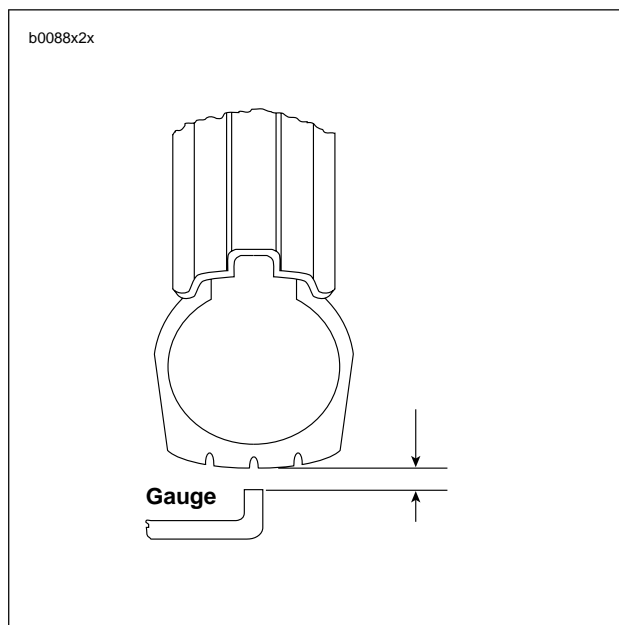

Figure 2-34. Checking Tire Radial Runout
1. See Figure 2-34. Turn wheel on axle and measure tire radial runout.